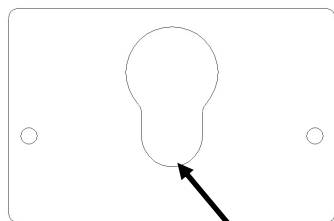

Fig. 1
4. Use one or more units to treat the coil surface area, as shown in Fig.1 and Fig.2. Areas shaded from direct exposure to the lamps will not be disinfected. The greater the amount of coil and drain pan area exposed to the lamp, the greater the amount of biological disinfection.
1. Using the Second Wind NEMA unit as a template, mark the (4) mounting holes on the surface where the device is to be installed.
4. For 3000 Series units, mark the position of the smallest diameter on keyhole lamp plate (Fig 1).